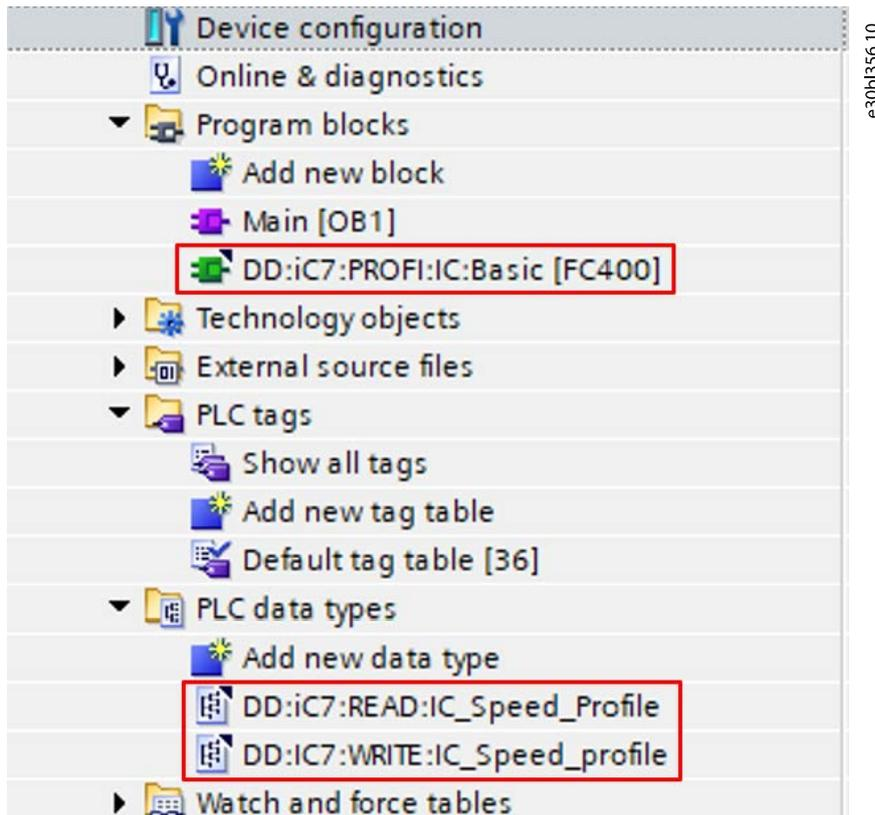

Figure 24: Add Files in the Program Blocks and PLC Data Types Folders
3. Create I/O tags for the process data to/from the drive. Use the user-defined PLC data types as illustrated in Figure 24.